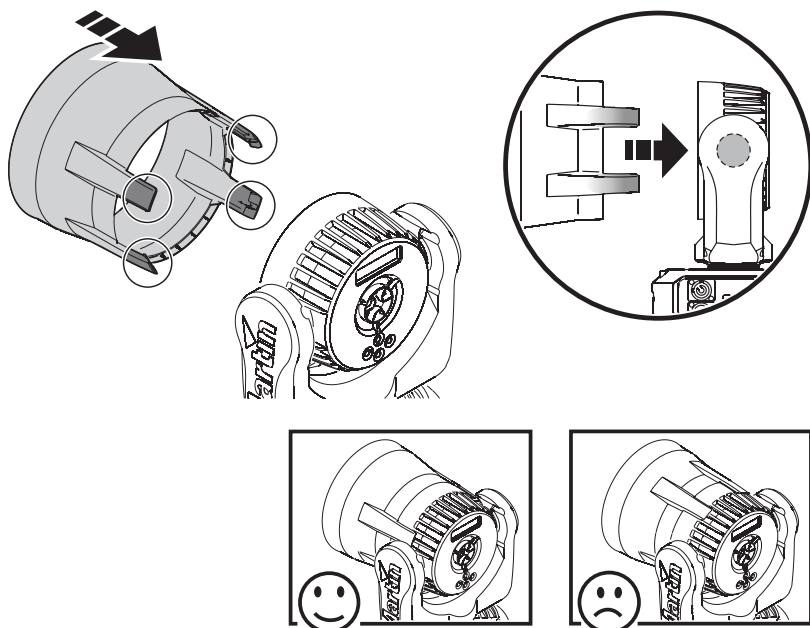

Figure 7: Top hat retaining clips
1. See Figure 7. Line up the top hat so that the pairs of retaining clips pass closely on either side of the tilt pivots in the sides of the head.